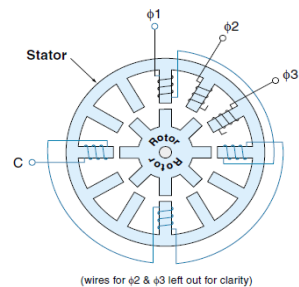

Figure 3.15 A 3 phase VR stepper motor (15 step).
- The **variable reluctance (VR) stepper motor** does not use a magnet for the rotor;
- Figure 3.15(a) shows a typical 3 phase stepper motor.